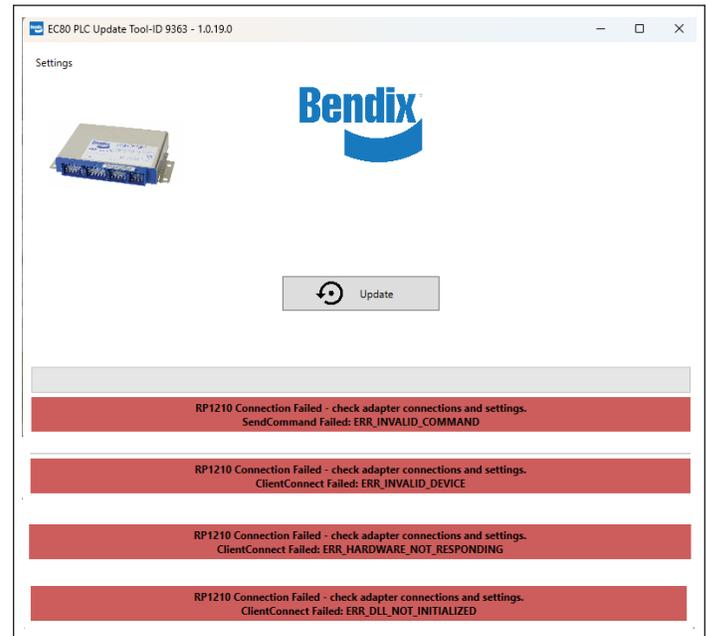

Figure 9 – Adapter Connectivity Issues
- If the utility is having issues connecting to the adapter, one of the error messages in *Figure 9* may appear. Perform the following troubleshooting steps.